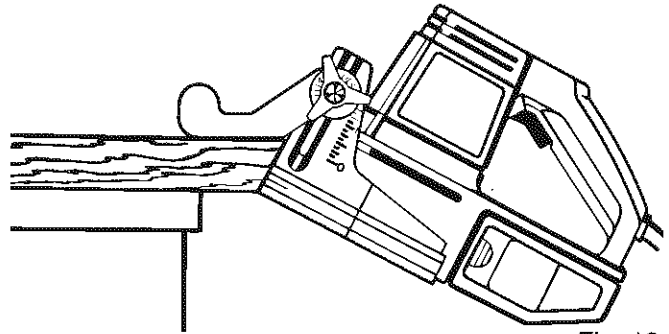

Fig. 18
- When making edge miter joints with workpieces that have different thicknesses, clamp securely to a workbench with the long sides up. This will assure that the outside surfaces will match. See Figure 18.
- Place your Plate Joiner on workpiece with the fence resting on the long side of workpiece as shown in Figure 18. The front base should be against the mitered edge of the workpiece.